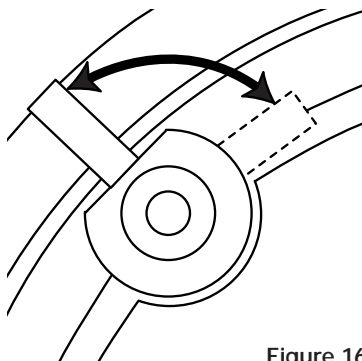

Figure 16
6. On both models, there are four clamps or mounting "dogs" which hold each speaker in place. The dogs are tightened via four front-baffle screws. To install the speaker, first rotate the dogs inward. Insert the speaker into the cutout and tighten the dogs by turning the screws clockwise. **DO NOT OVERTIGHTEN THESE SCREWS.** Over-tightening the clamps may make the grille difficult to install. (See Figure 16).